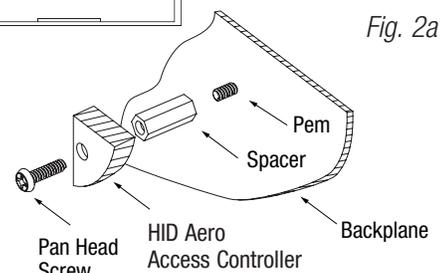

Fig. 2a
2. Mount HID Aero modules to spacers utilizing 7/8" pan head screws (provided) (Fig. 2a, pg. 3).